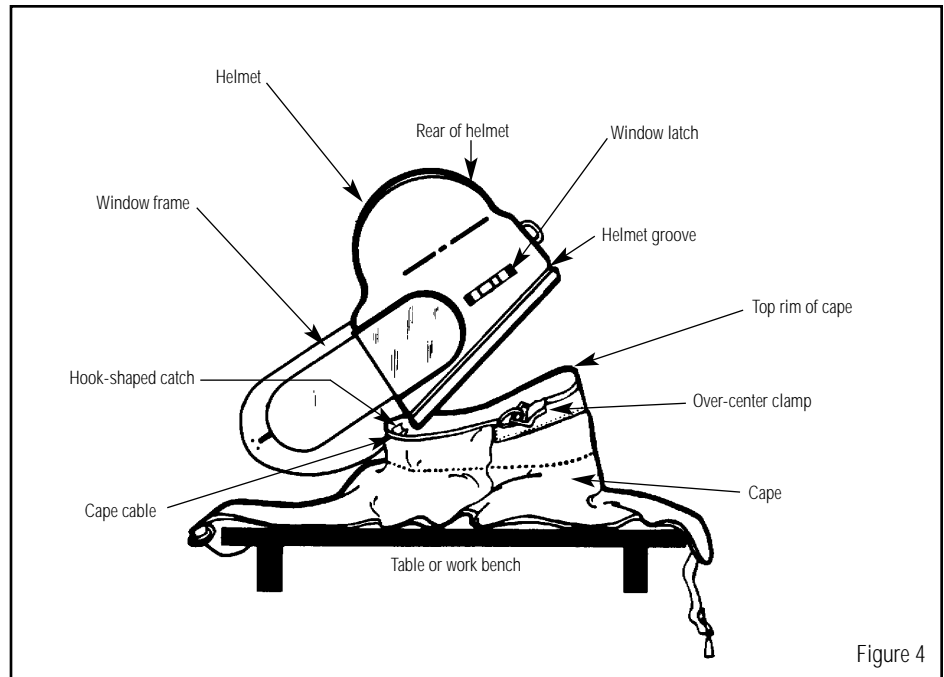

Figure 4
2. Remove cape from helmet by lifting up on over-center clamp and disengaging cape from helmet groove. (Figure 4)
1. Place cape on table or workbench. (Figure 4)
3. Line up the hook-shaped catch on the cape with the front center of the helmet. (Figure 4) Catch should firmly engage under bottom front edge of helmet.